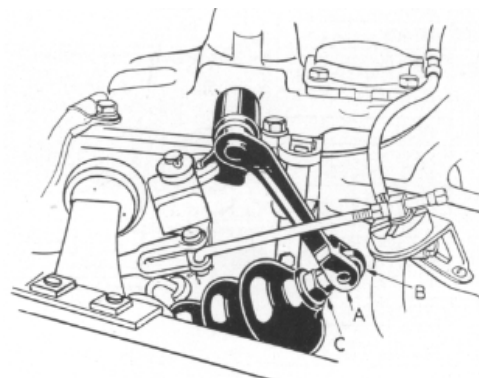

Figure 8
The power cylinder piston rod (B), Figure 8, should enter the fork (A) in the shifting lever easily when the transmission is in either its forward (high) or rearward (second) position. The power unit should also have sufficient clearance to prevent striking the frame X member. Maximum clearance is obtained by pushing upward on the unit while tightening the nuts on the studs which hold the mounting bracket to the transmission.